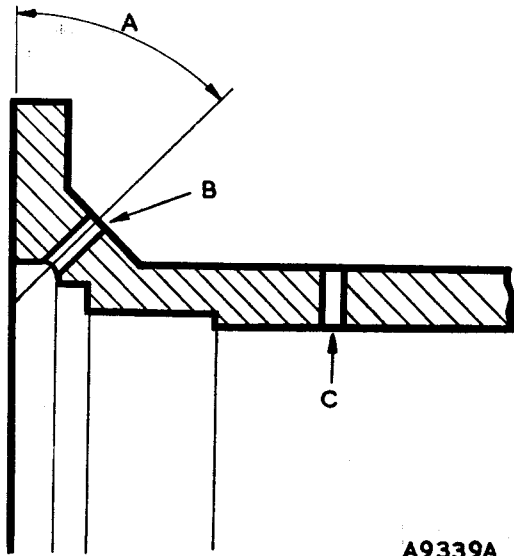

Fig. 5. The vent hole drilling
4. On HP-type long-coil housings re-drill the $\frac{1}{8}$ in. (1.6 mm.) diameter vent hole in the corner of the flange as on short-coil housings (Fig. 5).
It is essential when the short coils are fitted in long housings that the $\frac{1}{8}$ in. (1.6 mm.) diameter vent hole in the side of the coil housing should be re-drilled in the corner of the flange (see Fig. 5).